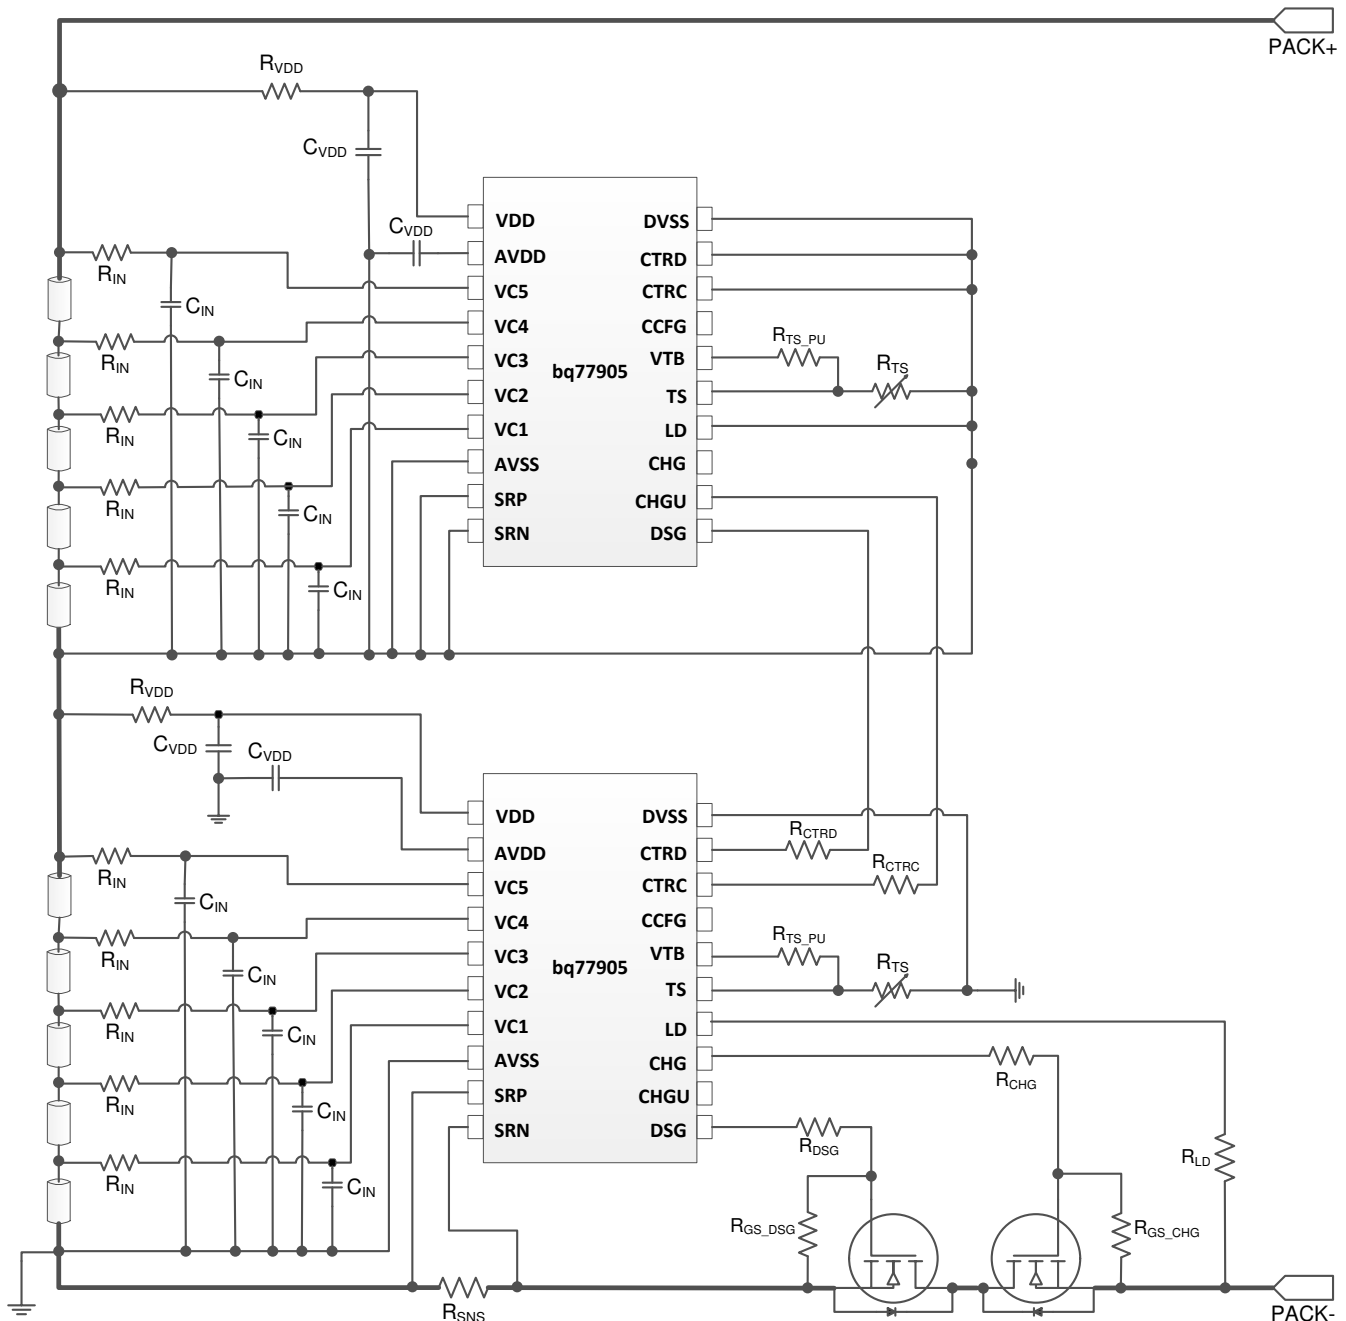
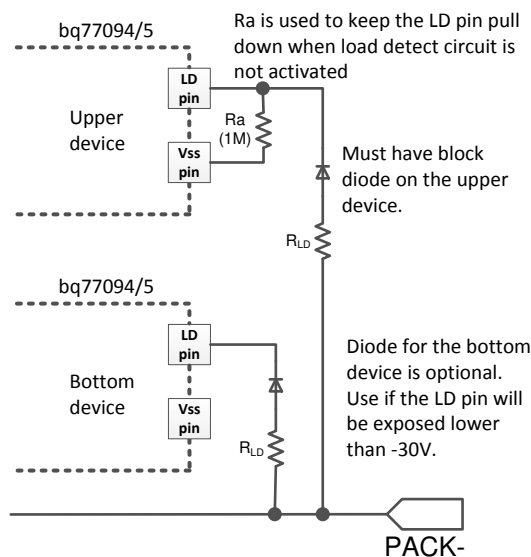

图 8-9. 10S Pack Using Two BQ77905 Devices
图 9-7. Simplified Circuit: LD Connection on Upper Device When Using for UV Fault Recovery
- If load removal is not used for UV recovery, connect the upper device LD pin to its AVSS pin, as shown in Figure 8-9 and Figure 8-10. Otherwise, refer to Figure 9-7 for proper LD connection.
To ensure load removal is detected properly during a UV fault, TI recommends to use $3.3\text{ M}\Omega$ for R_{GS_CHG} (instead of a typical of $1\text{ M}\Omega$ when load removal is NOT required for UV recovery). R_{CHG} can stay in $1\text{ M}\Omega$ as recommended when using CHG FET protection components. The CHG FET rise time impact is minimized as described in the Protecting CHG FET section. On a stacked configuration, connect the LD pin, as shown in 图 9-7 if load removal is used for a UV fault recovery. If load detection is not required for a UV fault recovery, a larger value of R_{GS_CHG} can be used (that is, $10\text{ M}\Omega$) and the LD pin on the upper devices can be left floating.